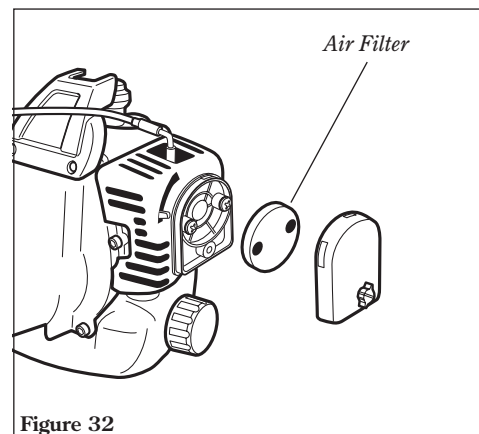

Figure 32
- Remove the air filter element from the carburetor and clean it thoroughly with soap and water. Rinse and dry thoroughly, then reinstall. See Figure 32.